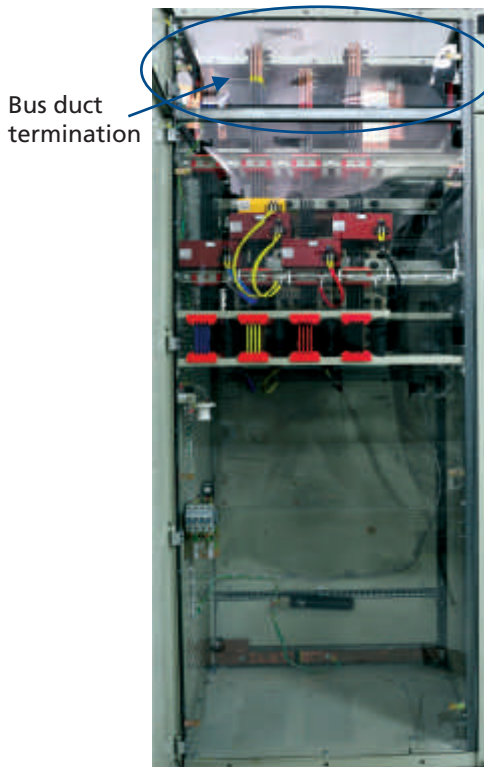

Figure 27 - Top Busduct termination
Punch the required holes on the gland plate depending on cable size and gland type Figure 27.
9. Block all the unused holes Figure 27.